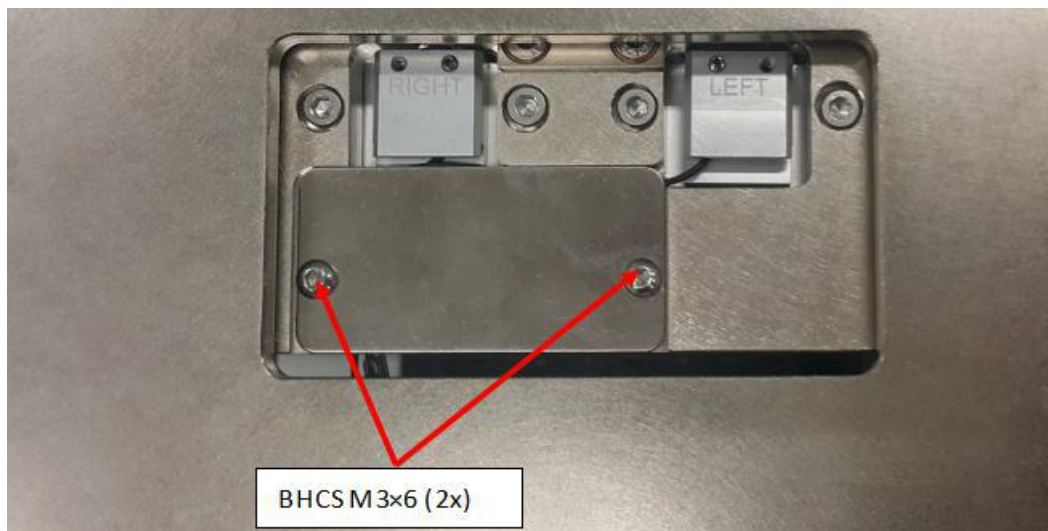

Figure 14 Sensor 2 Receiver
1. For Sensor 2 Receiver, remove BHCS M3×6 (2x) as shown in Figure 14.